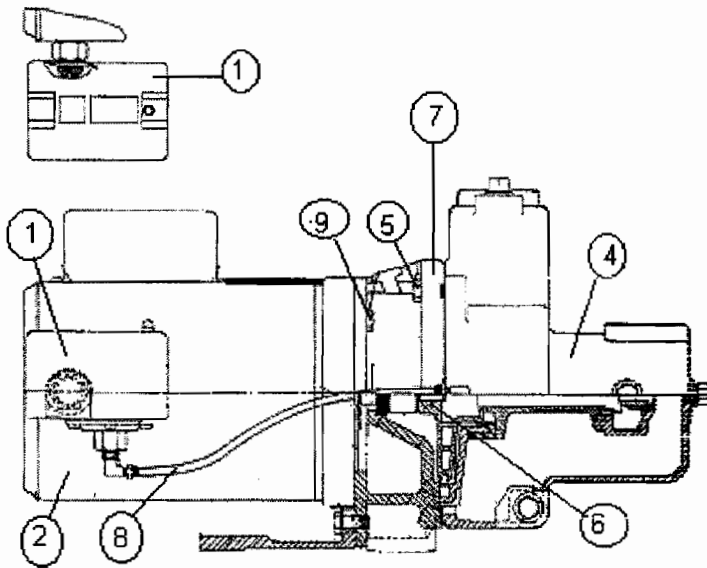

Figure 4-4. Potable Water Pressure Pump
a. Replace Motor (Refer to Figure 4-4)
- (16) Install pump face plate (7) on motor shaft.
- (17) Install four pump face plate bolts (9).
- (18) Install impeller (6) on motor shaft.
- (19) Install pump housing and four bolts (5).
- (20) Install motor and pump assembly on shock mounts with three bolts.
- (21) Install pilot pressure line (8) between pressure switch (1) and pump (4).
- (22) Install electrical leads to pressure switch (1) and motor (2) as tagged.
- (23) Install flex couplings and piping to pump housing.
- (24) Open discharge and suction valves.
- (25) Turn on power and test for normal operation.
b. Replace Pump (Refer to Figure 4-4)